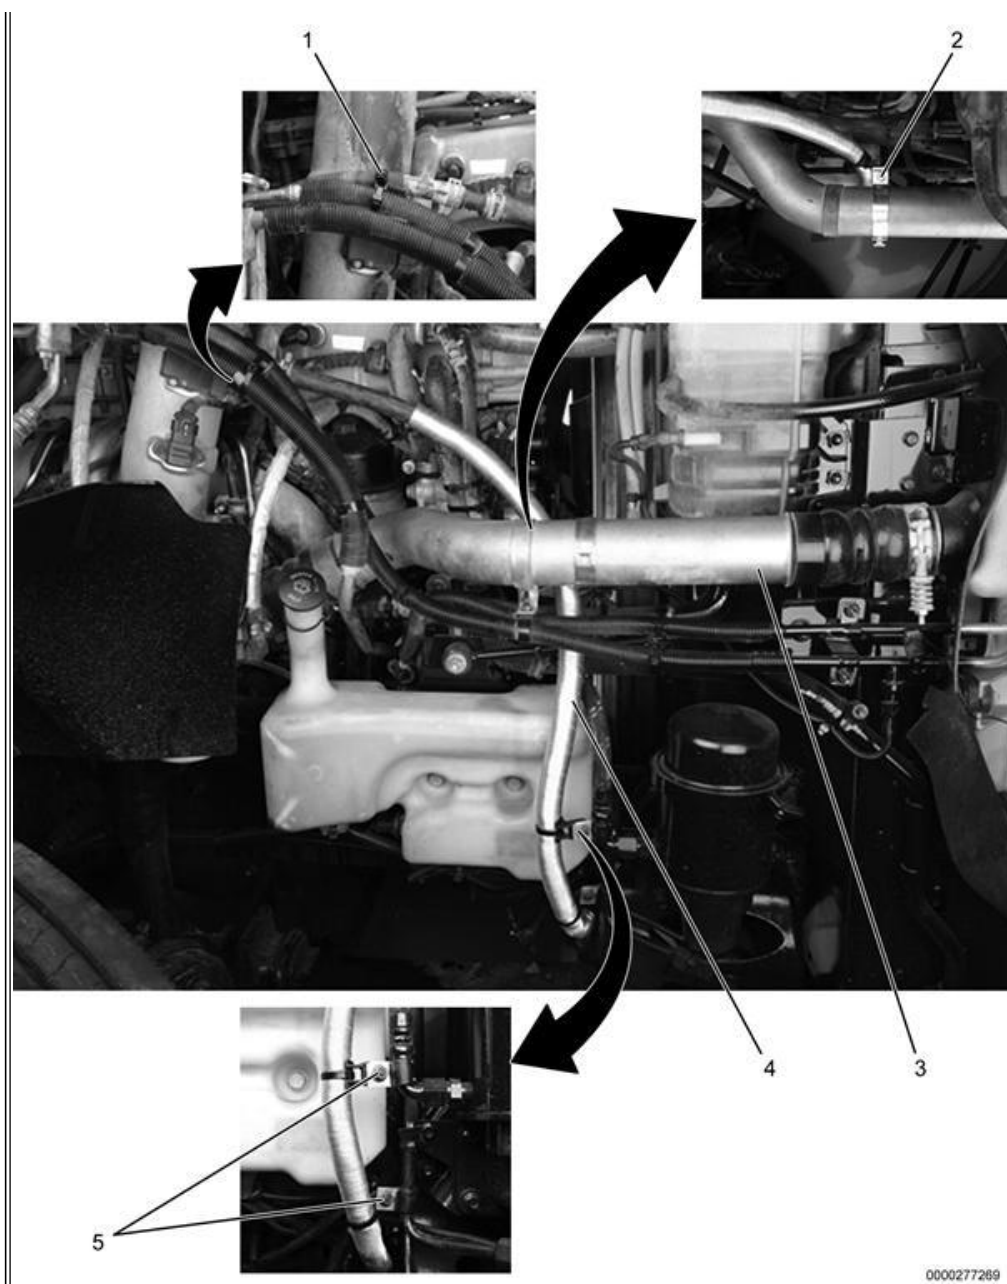

Figure 16: ProStar® 122 Heater Hose Route Overview.
6. Install clamp (Figure 16, Item 2), carriage bolt, and nut onto CAC pipe (Figure 16, Item 3). Using torque wrench, tighten nut to standard torque value.
7. Secure heater hose (Figure 16, Item 4) to CAC pipe clamp using sideways saddle, bolt nut, and one tie strap.
8. Using tie strap (Figure 16, Item 1), secure heater hose (Figure 16, Item 4) to A/C hose.
9. Using two sideways swivel clamps (Figure 16, Item 5), two tie straps, two M8 bolts, and two M8 nuts, secure heater hose to oil centrifuge supply and return lines.
10. Attach heater hose (Figure 16, Item 4) to lower radiator hose. Using torque wrench, tighten clamp to standard torque value.